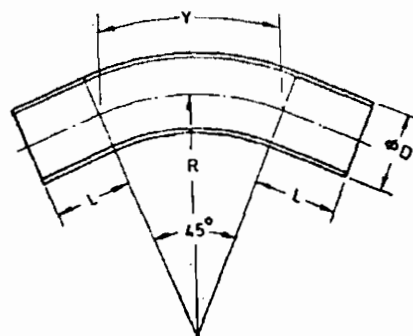

FIG. 1 45° BEND
2.2.2 Dimensions — The dimensions of 45° bends shall comply with Table 1 read with Fig. 1.
(Clauses 2.2.2 and 2.2.3, and Fig. 1)
2.2.2 Dimensions — The dimensions of 90° bends shall comply with Table 1 read with Fig. 1.
(*Clauses 2.2.2, 2.2.3 and Fig. 1*)